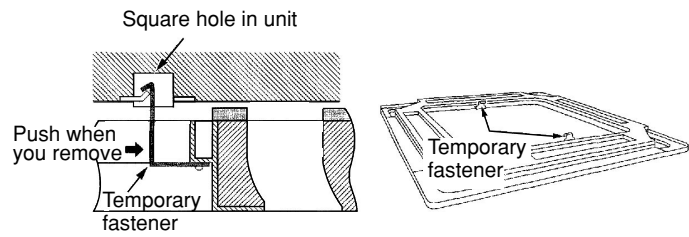

Fig. 9-16
(1) Insert the temporary fasteners (stainless steel) on the inside of the ceiling panel into the square holes on the unit to temporarily fasten the ceiling panel in place. (Fig. 9-16)
● To remove the ceiling panel, support the ceiling panel while pressing the temporary fasteners toward the outside. (Fig. 9-16)